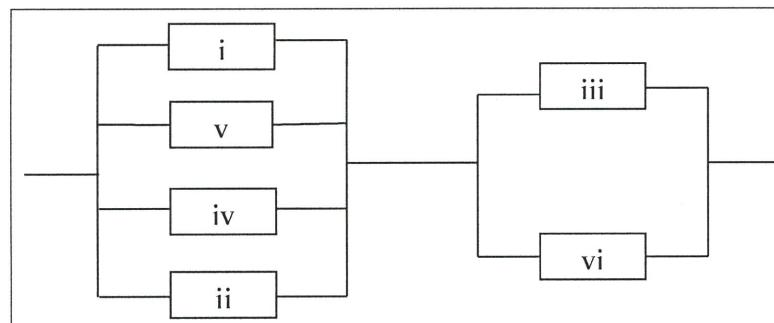

Figure Q5
- (ii) The reliability of the components (i, ii, iii, iv, v and vi) in **Figure Q5** are 0.600, 0.623, 0.611, 0.682, 0.622 and 0.653.